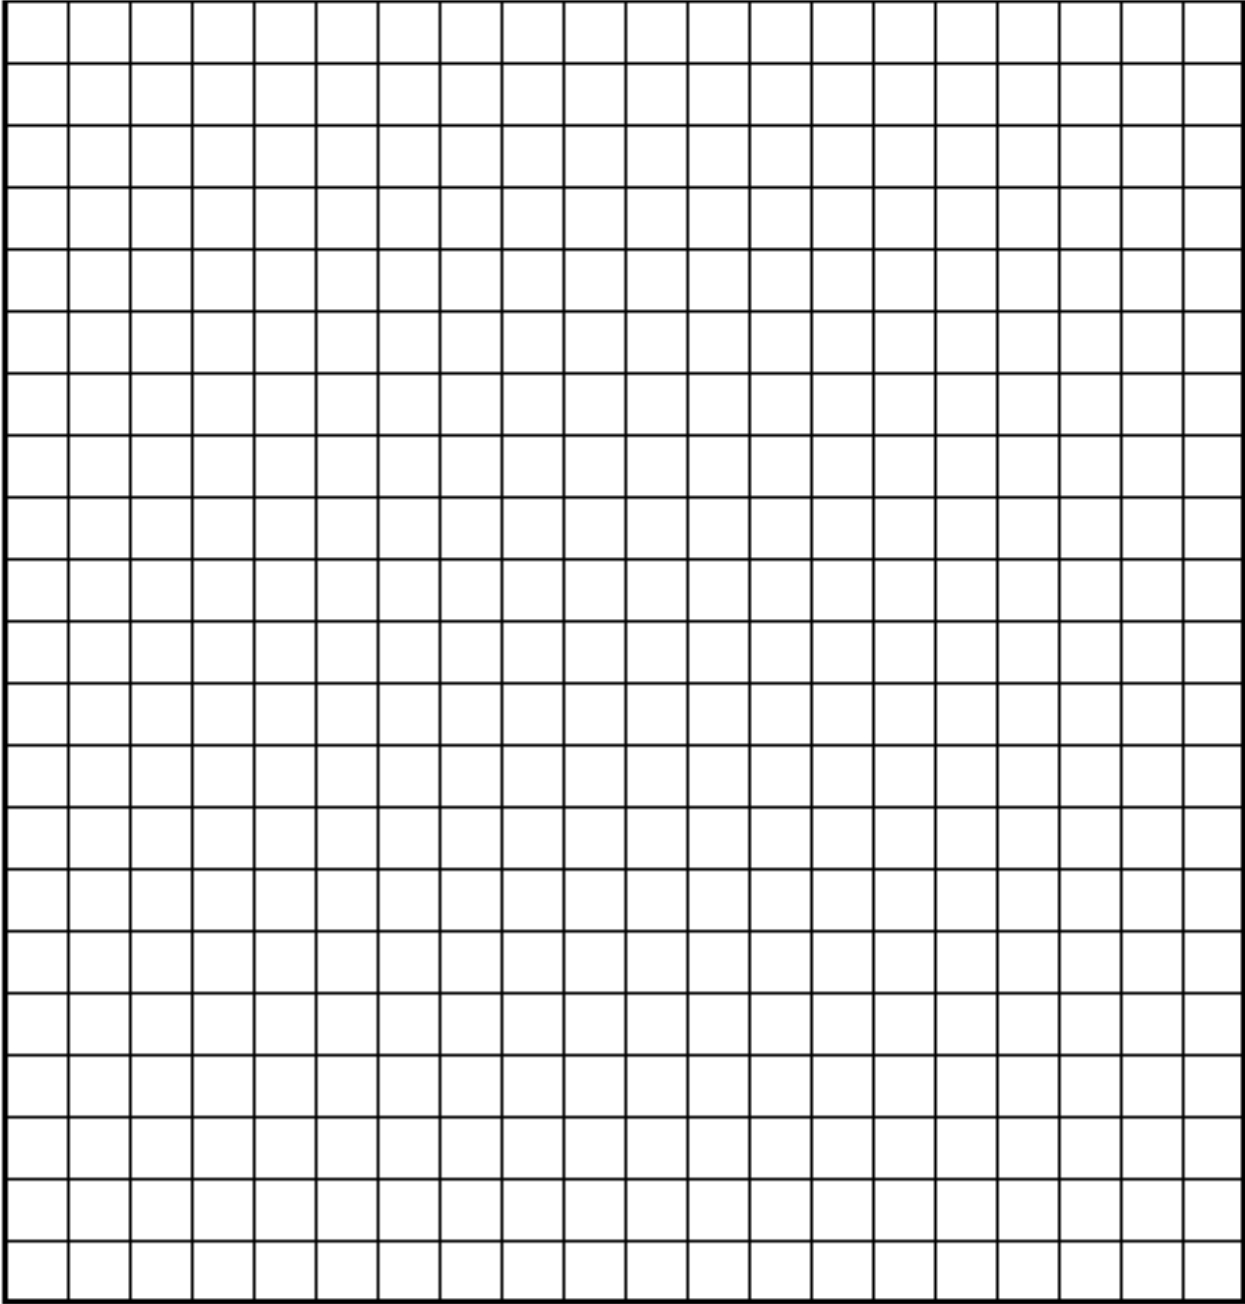

Figure 4. Extension - Force versus Vertical Deflection
2. On the provided graph (Figure 4), label the x-axis as "Vertical Deflection (Δx)" and the y-axis as "Force (F)." Plot the deflection as a function of added mass. Refer to the deflection distance using the symbol Δx .